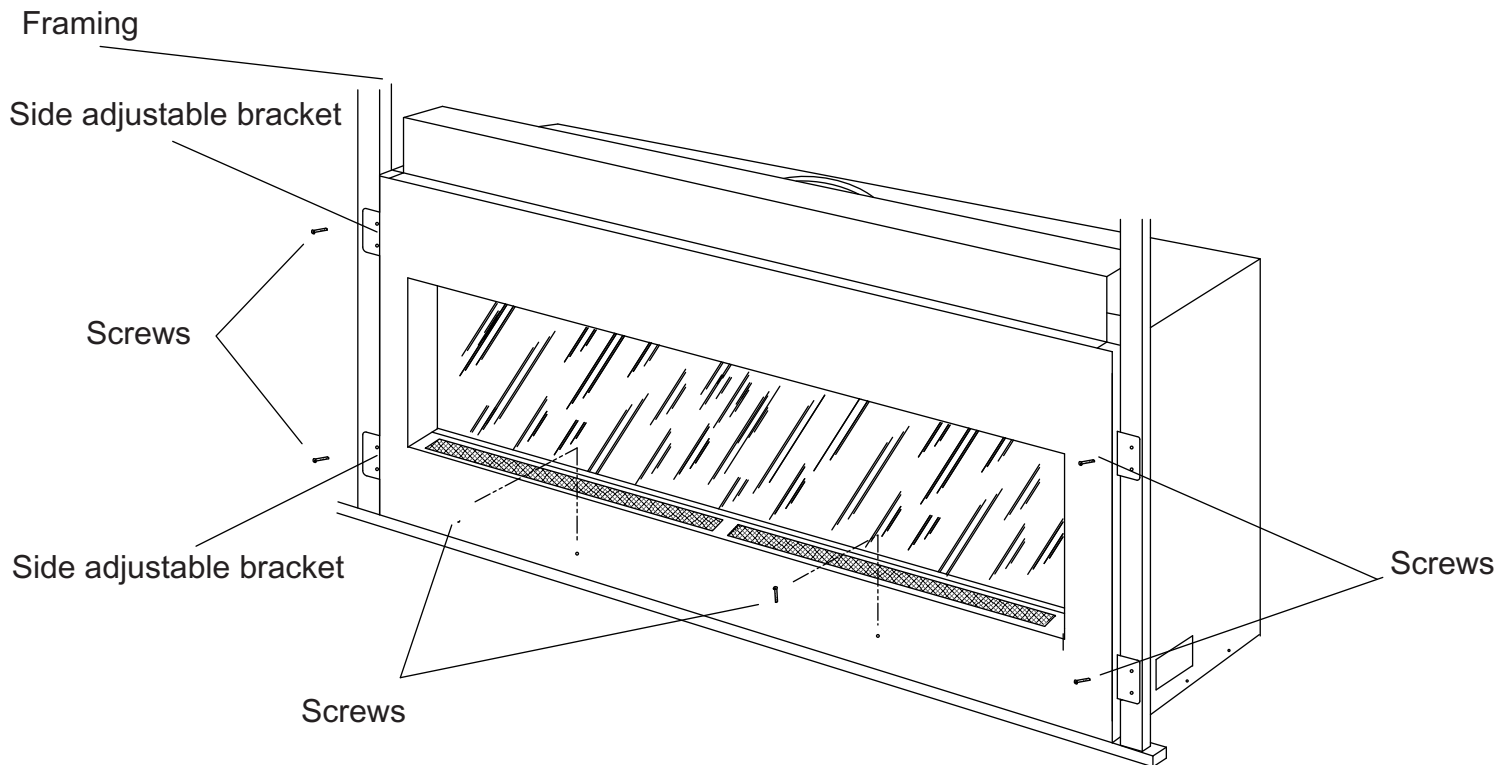

Figure 5 - Securing Fireplace to Floor and Framing Studs
The fireplace must be secured to the floor and/or to framing studs as shown in *Figure 5*. Use two (2) wood screws or masonry/concrete screws to secure fireplace to the floor. Use four (4) screws to attach fireplace to framing. The side brackets are adjustable from 1/2" to 5/8" to accommodate different thickness of material.